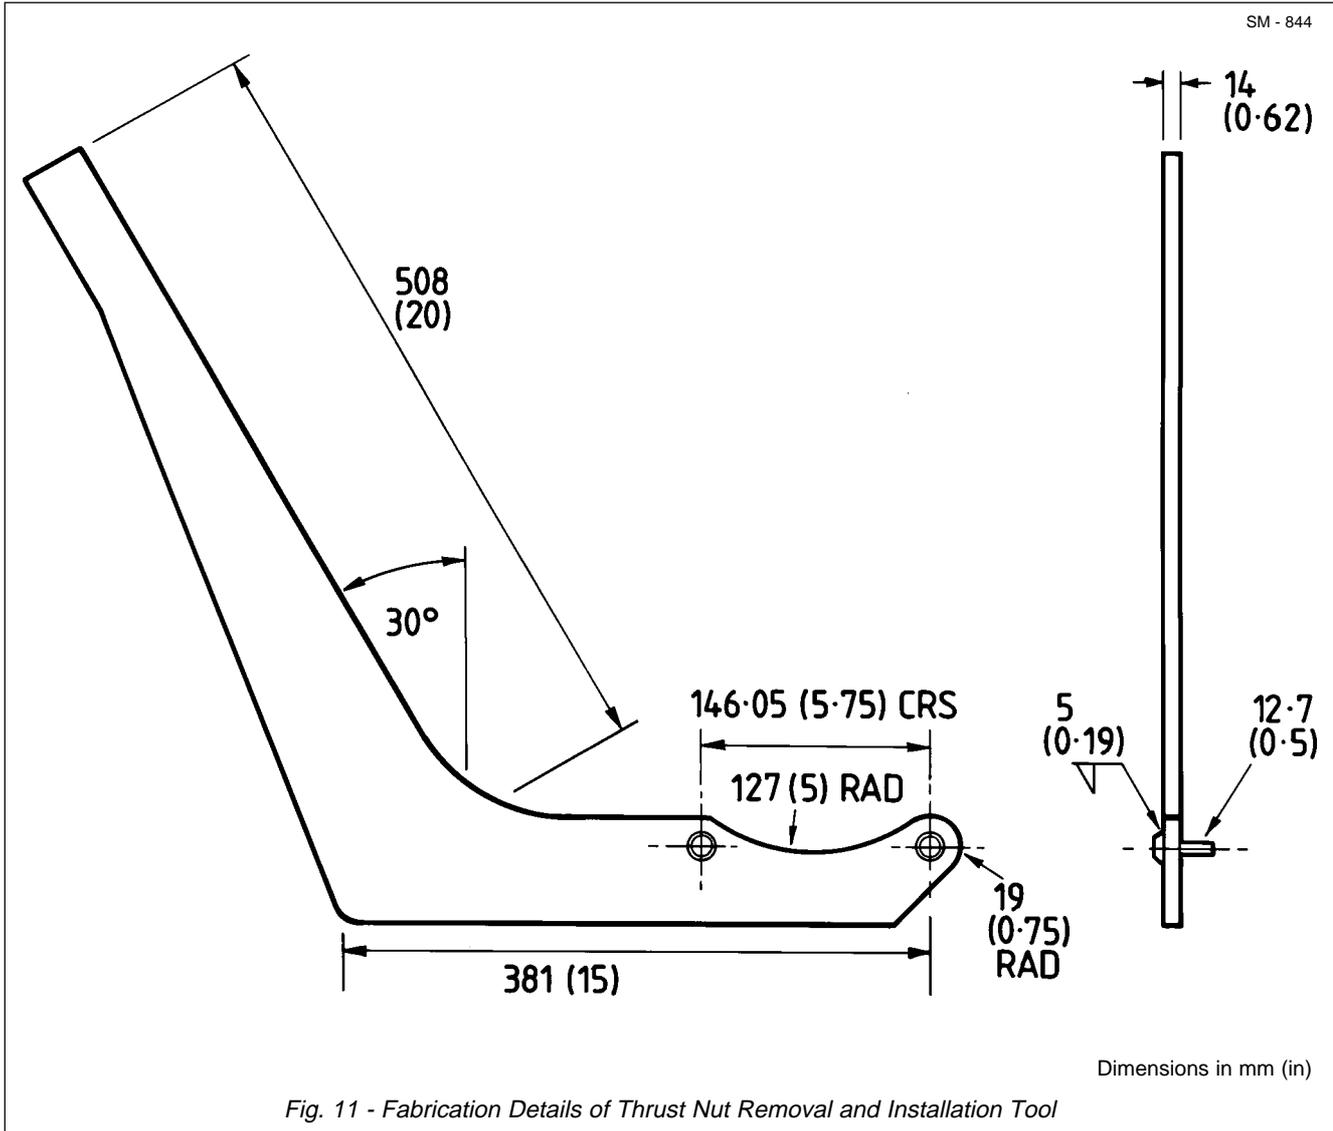

Fig. 11 - Fabrication Details of Thrust Nut Removal and Installation Tool
14. Remove bolts (36), lockwashers (14) and lockplate (35).
15. Using special tool, which can be fabricated as shown in Fig. 11, remove thrust nut (34) from pivot (1). Note position of rear 'V' ring (41) to aid in 'Installation'. Remove and discard 'V' ring (41).
17. Remove all blocking from rear frame and wheels and using suitable lifting equipment draw the rear frame from pivot (1) assembly. When clear, block the rear frame and wheels.
4. Using special tool, which can be fabricated as shown in Fig. 11, remove thrust nut (34) from pivot (1). Clean grease from pivot exterior using a suitable solvent where necessary and allow to dry.
7. Remove all blocking from rear frame and wheels and use lifting equipment to line-up and draw the rear frame onto pivot (1) assembly.
8. Install new pre-greased rear 'V' ring (41). Refer to Fig. 10. Using special tool, as shown in Fig. 11, install and tighten thrust nut (34) until there is no end float/clearance at thrust face of either bush (43). Slacken thrust nut (34) until pin of lockplate (35) can be inserted in first available hole in thrust nut (34).
9. Secure lockplate (35) with bolts (36) and
6. Using special tool, which can be manufactured as shown in Fig. 11, tighten thrust nut until there is no end float/clearance at thrust face of either bush. Slacken thrust nut until pin of the lockplate can be inserted in the first available hole in the thrust nut.
The special tool required for removal and installation of the thrust nut, can be manufactured, as shown in Fig. 11.